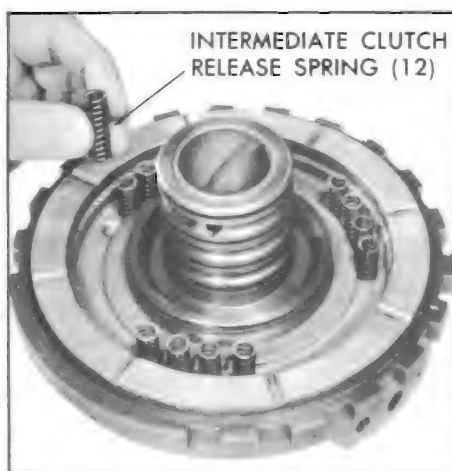

Figure 5-656
4. Install twelve (12) release springs into the piston. See Figure 5-656.